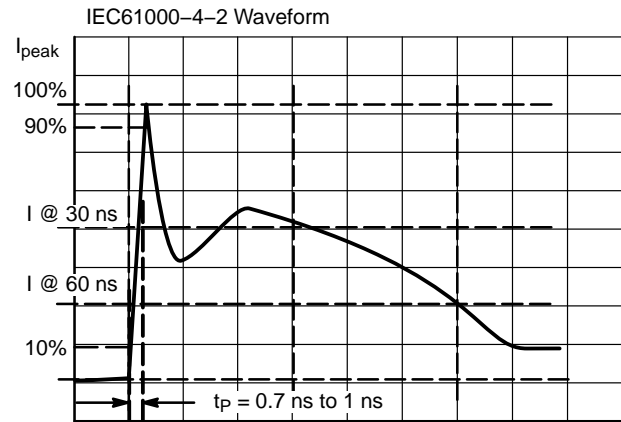

Figure 5. IEC61000-4-2 Spec
2. For test procedure see Figures 5 and 6 and application note AND8307/D.